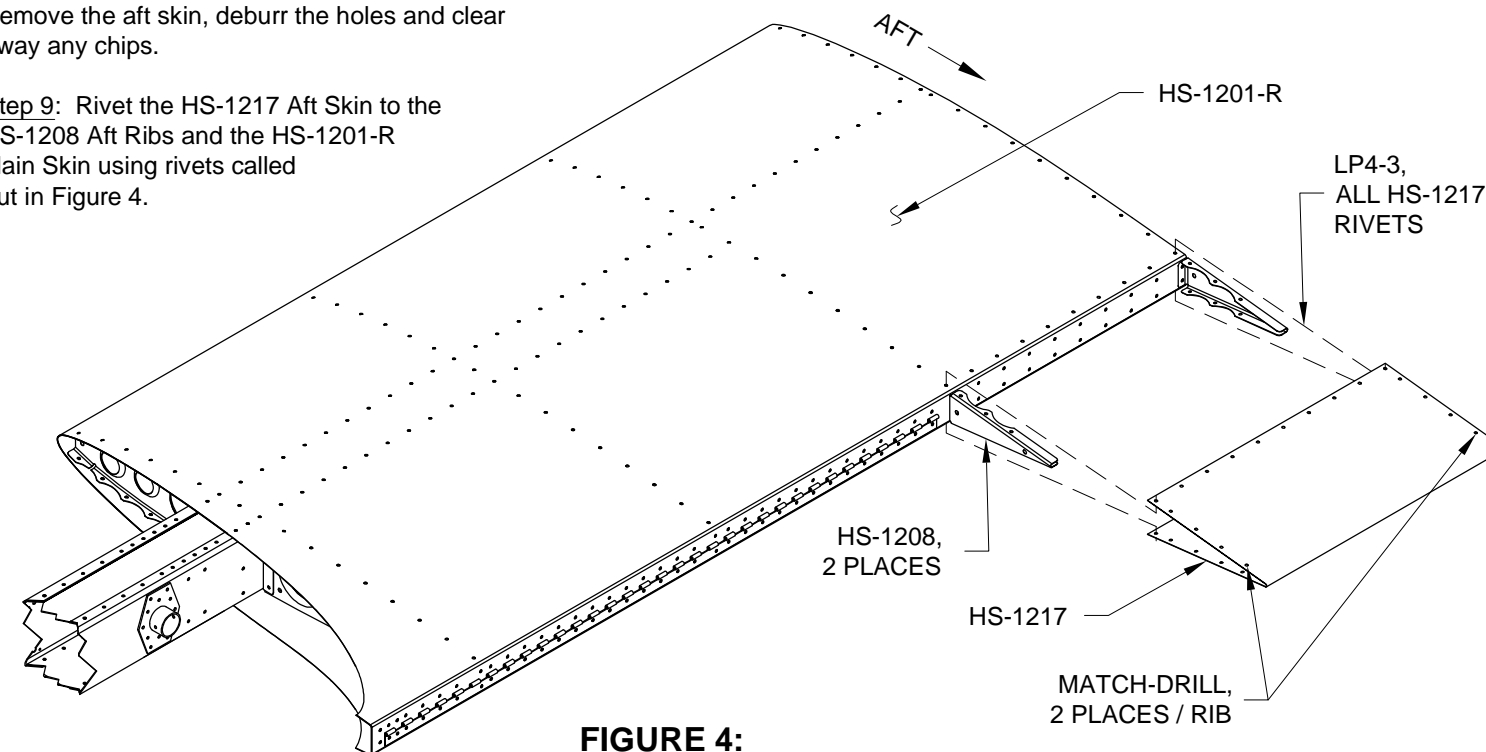

FIGURE 4:
Step 8: Match-Drill #30 the holes from the HS-1217 Aft Skin into the HS-1208 Aft Ribs called out in Figure 4.
Step 9: Rivet the HS-1217 Aft Skin to the HS-1208 Aft Ribs and the HS-1201-R Main Skin using rivets called out in Figure 4.